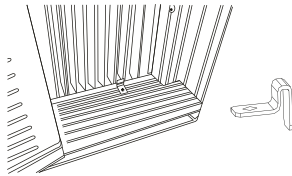
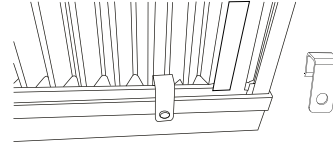

Fig.7A
Fig.7B
- A. Place the frame lock between the frame extensions and the window sill as shown (Fig.7A for Wooden windows), (Fig.7B for Vinyl-Clad windows).